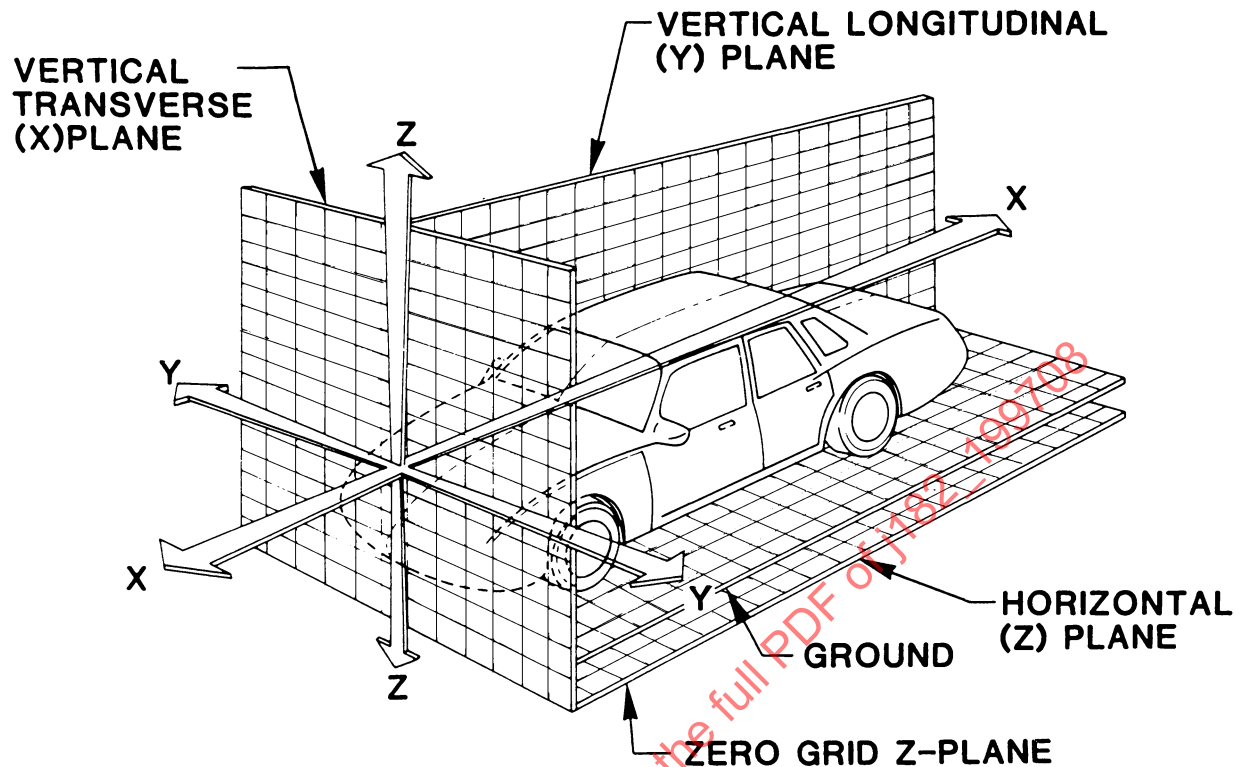

FIGURE 1—THREE DIMENSIONAL REFERENCE SYSTEM
- 3.1 **Three-dimensional Reference System**—The relationship of three orthogonal planes established by the manufacturers in the initial design stages of the vehicle that remain permanent (see Figure 1). The planes are used to determine dimensional relationships for components in and around the vehicle and are defined as follows: